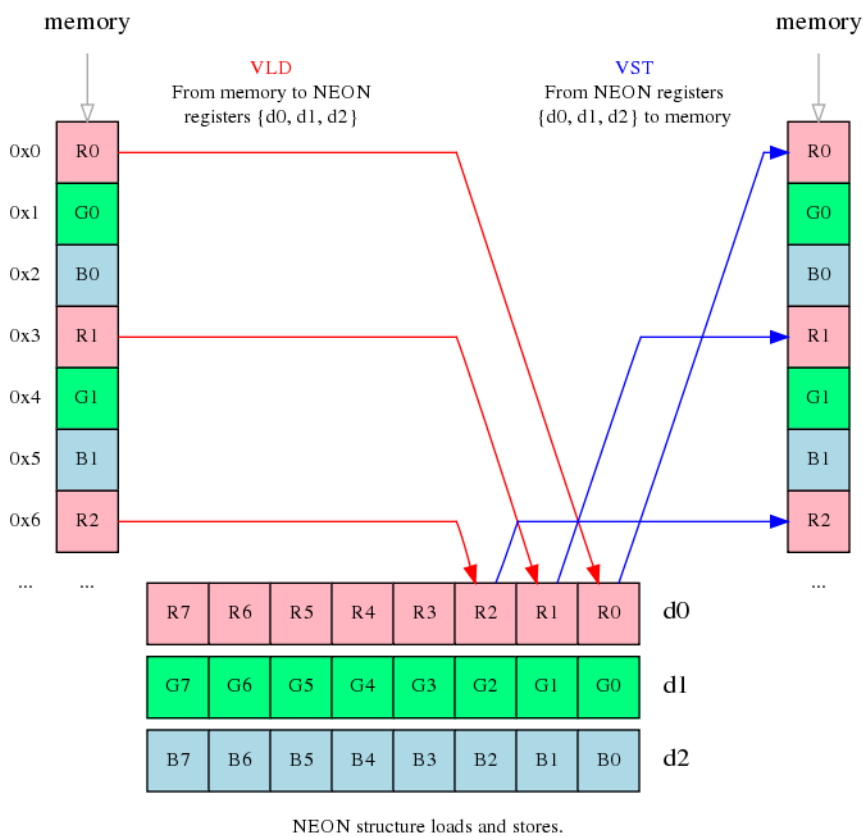

Figure 6-4 NEON structure loads and stores
NEON structure loads read data from memory into 64-bit NEON registers, with optional de-interleaving. Stores work similarly, interleaving data from registers before writing it to memory as Figure 6-4 shows. For more information see *VLDn and VSTn (multiple n-element structures)* on page C-63.
- load multiple lanes with different elements, as Figure 6-4 on page 6-3 shows